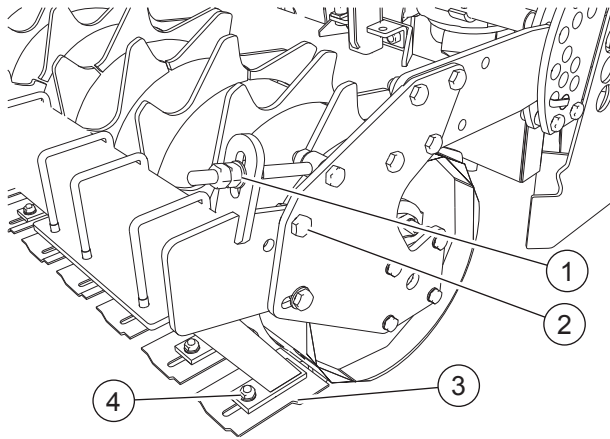

FIG. 34
- Loosen nut (2, "Fig. 34").
- Loosen nuts (1) until the scraper is at the desired distance from the roller.